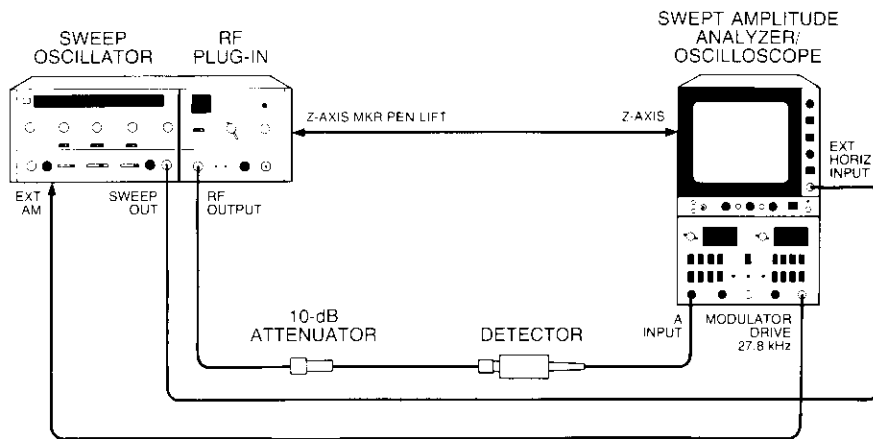

Figure 5-12. ALC Adjustments Setup Using 8755A Swept Amplitude Analyzer
- d. Connect equipment as shown in Figure 5-12.